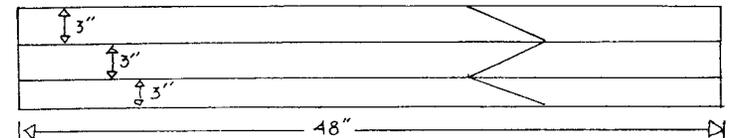

FIG. 1
"The recent article in Flying Models which describes a very simple test to determine correct C.G. position on your sailplane has started a lot of people thinking in our club. The test is to trim your sailplane for its lowest sinking speed configuration and then to put it into a long shallow dive by holding forward pressure on the stick. Release the pressure on the stick and note the model's response. A nose-heavy model (C.G. too far forward) will zoom up into a stall. A tail heavy model (C.G. too far aft) will continue the dive and might tuck its nose down even more. A sailplane with its C.G. properly set will return to level flight with very little overshoot (i.e. porpoising). The best C.G. for your model would be somewhere between that shown by test results (2) and (4) in Figure 1. The sailplane with its C.G. at position (2) will have a better sink rate and penetration performance. That is the good news. The bad news is that the model will be very easily upset by rough air, and might be prone to diving in a turn. In other words, you will have to be very quick on the sticks. The additional control deflections will result in increased drag that will more than take away any performance gain.